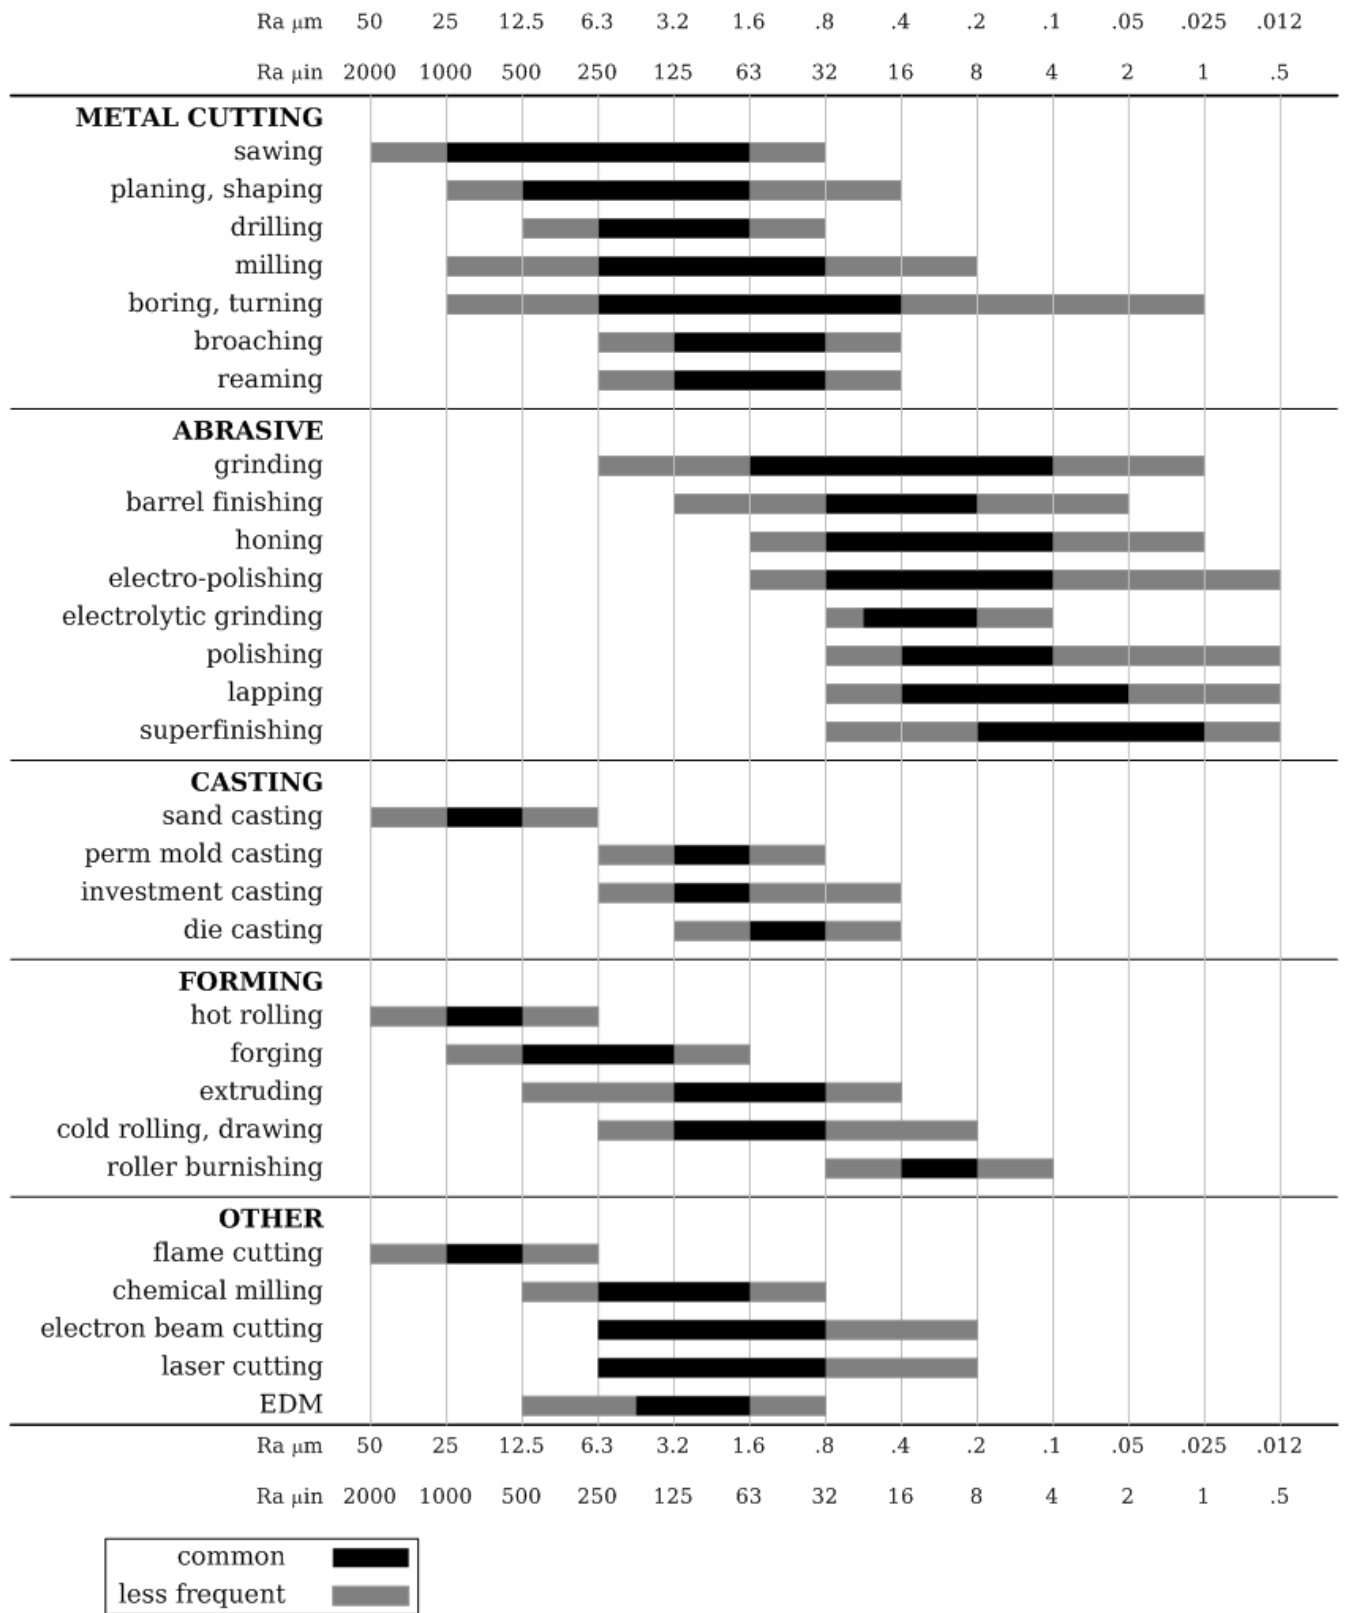

FIGURE 15.10. Surface finish produced by various processes. (Source: Wikipedia)
Figure 15.10 presents a collection of the most common manufacturing processes and the surface finishes commonly associated with each of them. As explained in the legend, the shaded portions of the bars represent the average application of these processes and means almost any shop should be able to achieve these finishes. The remaining portion of the bar indicates the less frequent application, which means one of two things: (1) highly skilled operators and equipment in excellent condition are required to obtain the surface finishes on the higher precision end of the range or (2) the process can easily achieve the finishes on the lower precision end of the range, but a cheaper alternative likely exists, which could significantly reduce part cost.